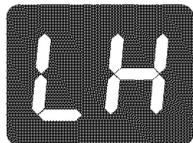

Fig. 1
2. Touch the  key pad located in the main control area. The associate display will show **LH** (low heat - Fig. 1) indicating that the Cooking Element is properly set to Keep Warm. If no other key pads are pressed the control will activate the desired Cooking Element at the Keep Warm setting.